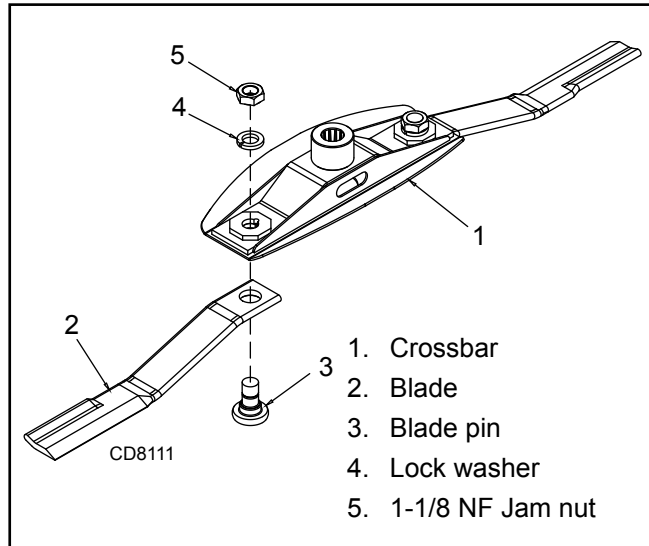

Figure 17. Blade Removal
2. To make crossbar removal easier, remove blades as shown in Figure 17.